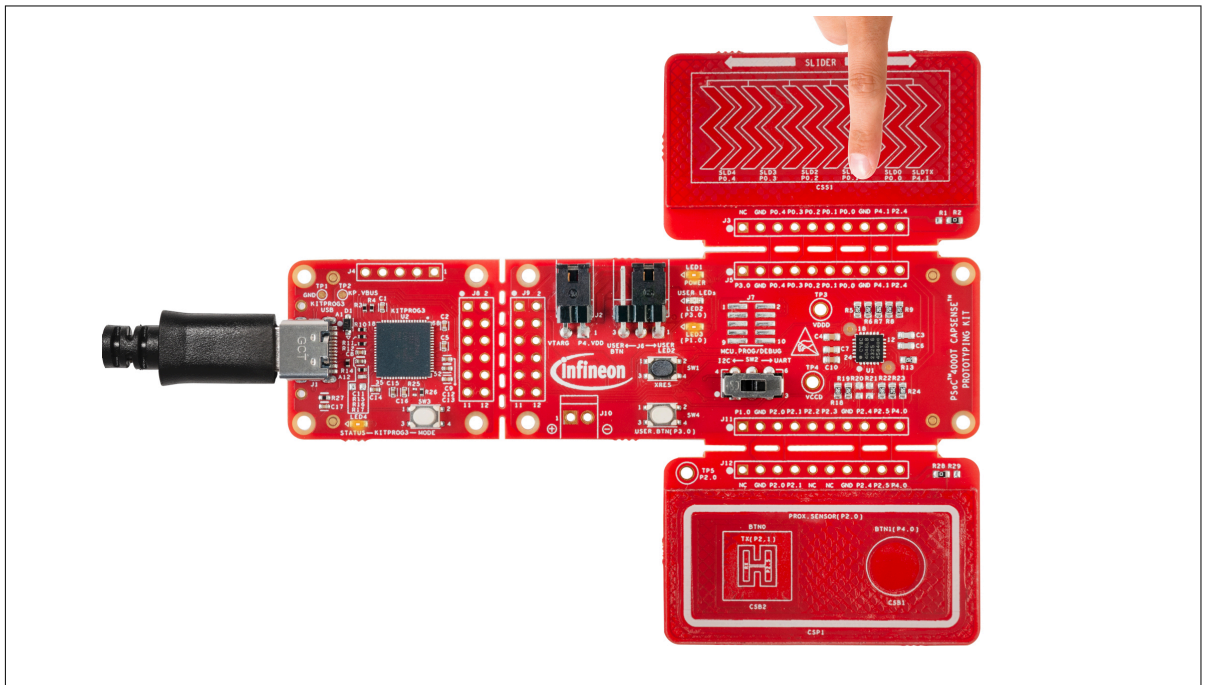

Figure 9 Capacitive slider operation with LED indication
3. Touch the slider with the finger and observe that LED3 turns ON, as shown in Figure 9. The LED brightness will vary based on the touch position. Move the finger along the slider to observe this variation.